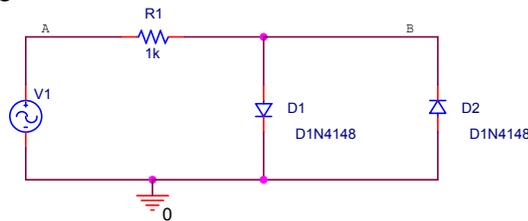

Figure B-9.
- Draw the circuit shown in Figure B-9.